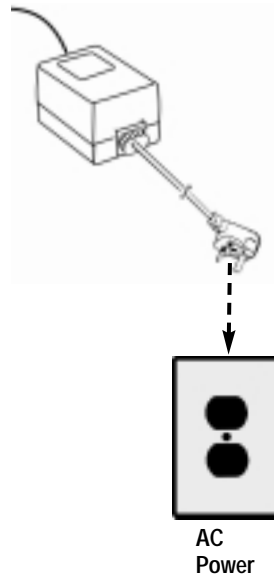

Figure 4 – 6 VDC power supply connection to AC power.
- 2) Plug the 6 VDC power supply into the AC socket - **see Figure 4.**